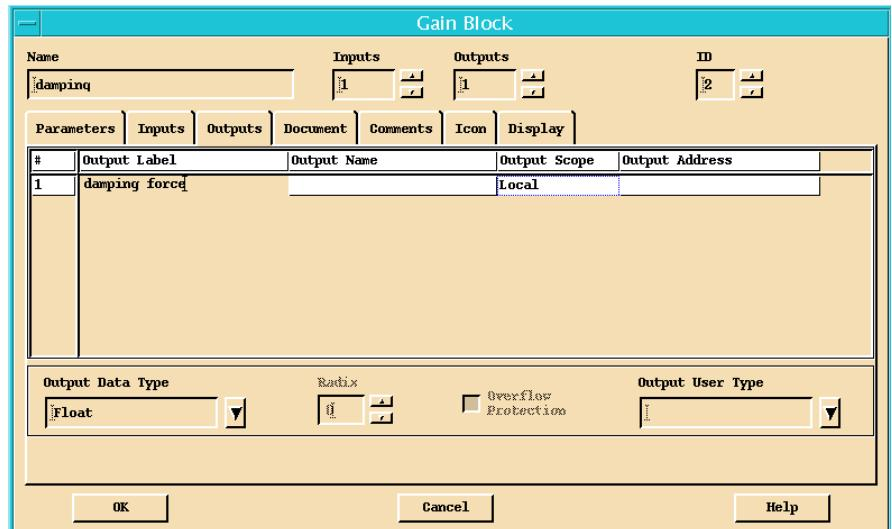

Figure 4-18. Gain Block (Outputs Tab)
- d. Click within the cell corresponding to output #1, **Output Label**, and enter **damping force** (see Figure 4-18).